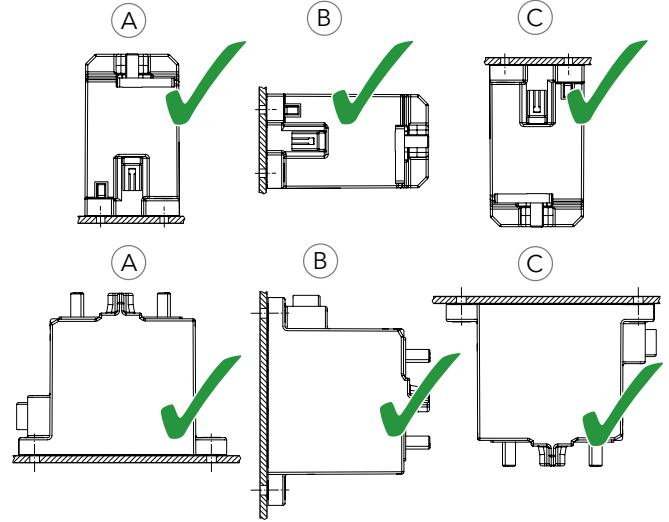

Fig. 3: C801-250-G0Y...: Examples of permissible mounting orientations
Contactors for screw mounting are designed for horizontal (A), vertical (B) or upside down (C) mounting, as shown for example in (Fig. 3).